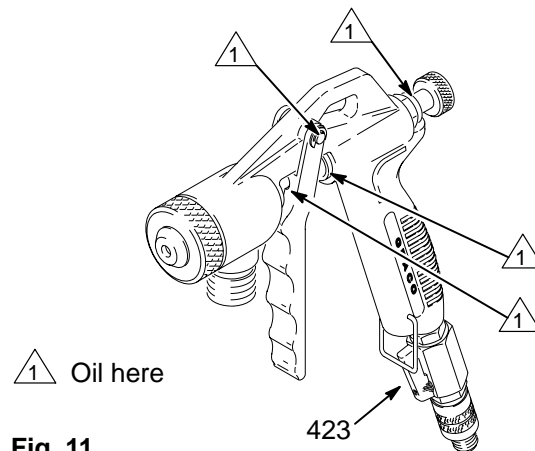
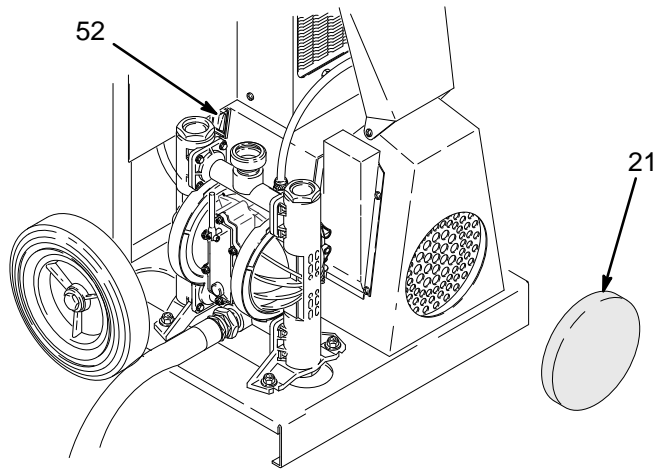

Fig. 11
Fig. 12
1. Be sure the compressor pressure is relieved – gun air valve (423) open. See Fig. 11. Close the gun air valve again. Turn on the switch (52). See Fig. 12.
8. Turn off the switch (52). See Fig. 12. Open the gun air valve (423) to relieve compressor pressure. See Fig. 11.
10. Remove the air filter (21), wash it thoroughly with soap and water, and reinstall it. See Fig. 12.
11. Clean and dry the gun. Oil the gun daily with a few drops of SAE–10 light oil at the points indicated in Fig. 11.